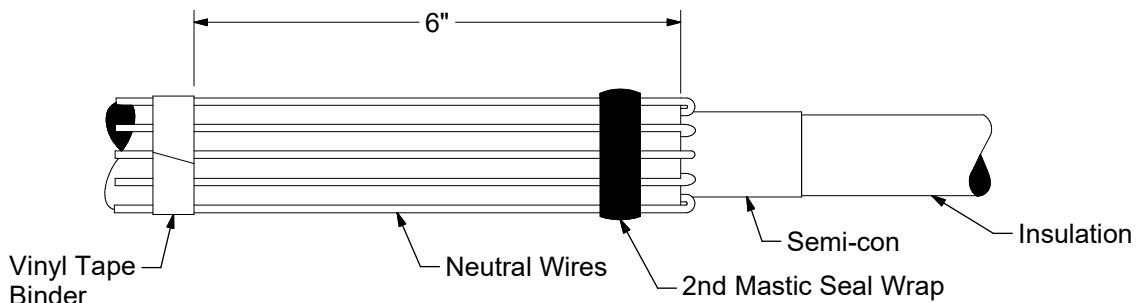

Figure 3
- Bend neutral wires back over applied sealing mastic and secure to cable jacket with vinyl tape 6" below jacket cutback. (Figure 3)
- Select the roll of 1" wide Scotch Sealing Mastic 2229 from the kit and cut a length of the mastic long enough to wrap around the cable jacket and neutral wires. Remove the release liner and, using a light tension, apply a single wrap of mastic around the cable jacket over the neutral wires and previously applied mastic. (Figure 3)